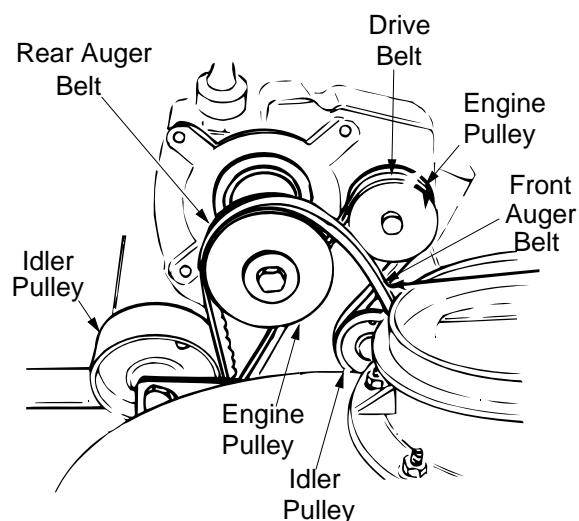

**Figure 22**
1. Remove the plastic belt cover on the front of the engine by removing the two self-tapping screws. See Figure 22.